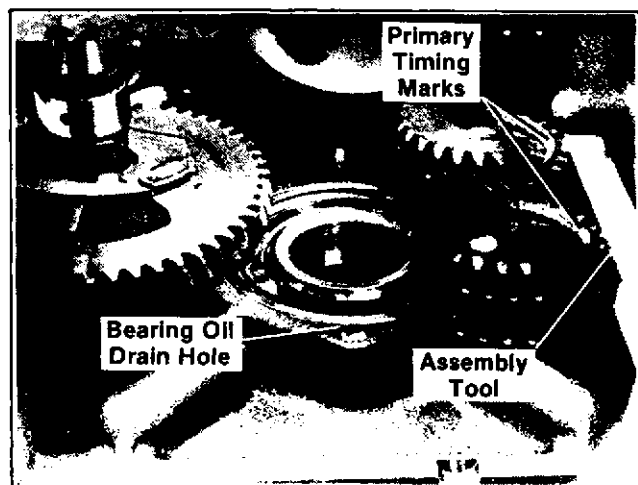

Figure 8-4. Aligning Balance Gears and Assembly Tool
1. Turn both balance gears so that primary timing marks line up with teeth on tool, then insert tool in mesh with gears (see Figure 8-4).